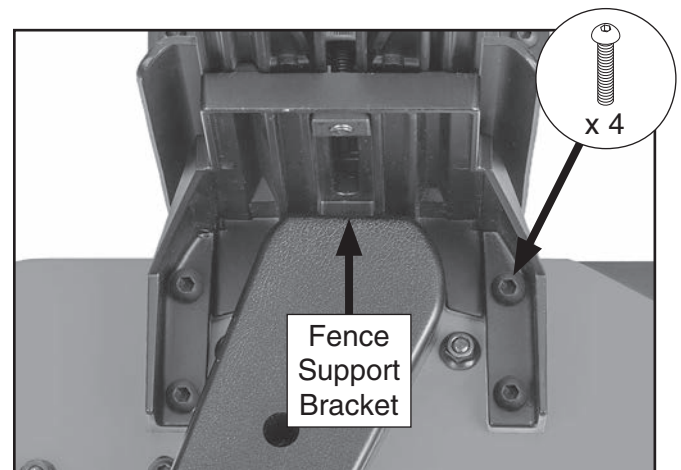

Figure 9. Button head cap screws used to install fence support bracket.
1. Remove (4) button head cap screws from jointer base and use to install fence support bracket (see **Figure 9**).